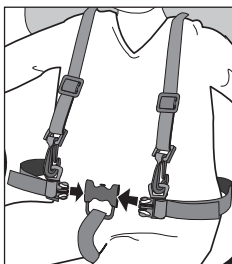
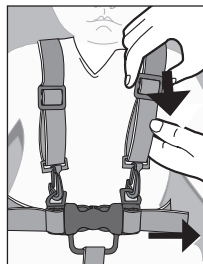

Figure 4.6
Figure 4.7
- 1 Place your child in the stroller, with the crotch strap between the child's legs. Fasten both buckles. **Figure 4.6** Tighten waist and shoulder straps snug around your child. **Figure 4.7**